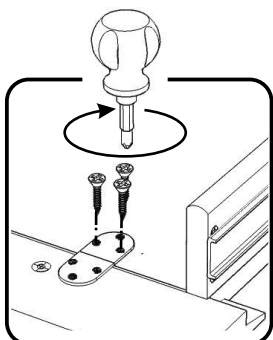

Figure 5
Attach Keyboard (K) to Keyboard (L) with Wood Screws (short). (See Figure 5)